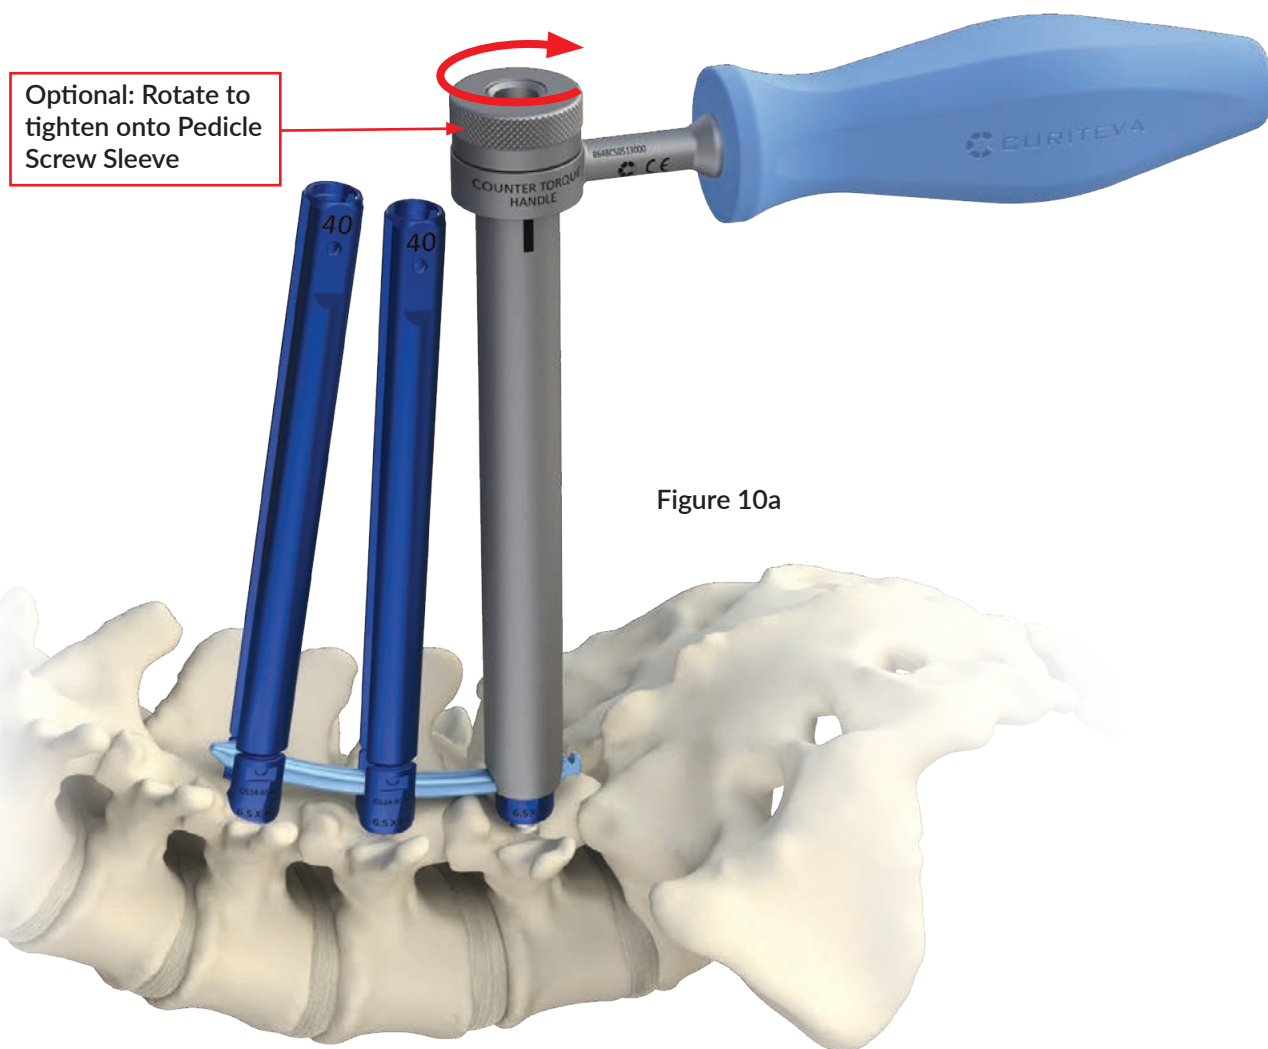

Figure 10a
- After the MIS Rods and all Set Screws are secured within the tulips, place the Pedicle Screw Sleeve over the tulip and seat onto the Rod. (**Figure 10a**)